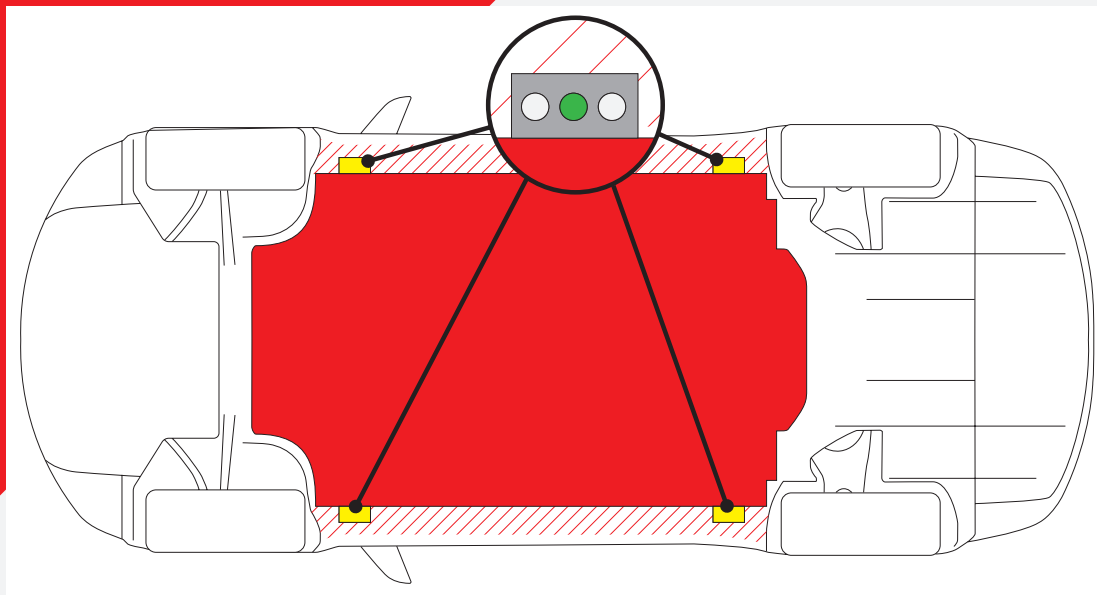

Figure 1
5. (Fig. 1) Locate the dedicated jacking points on the vehicle (illustrated in yellow). Ensure all points are free from debris and insert adaptor 173025 in the central location (as marked in green). Position the lift arm pads under the adaptor to avoid damaging the high voltage battery area (highlighted in red).